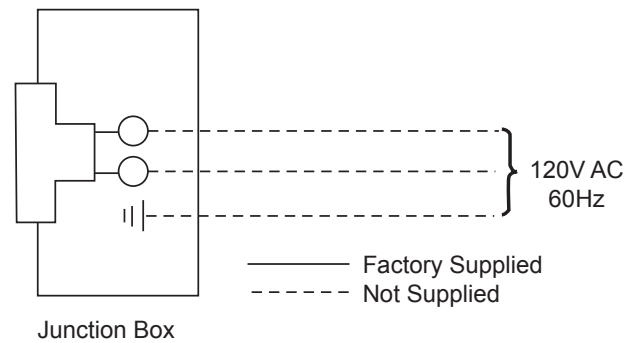

Figure 16 -
3. The junction box cover has a factory installed "romex" style strain relief connector. After connecting the wires, route the wire leads through this connector. Refer to the wiring diagram in Figure 16.